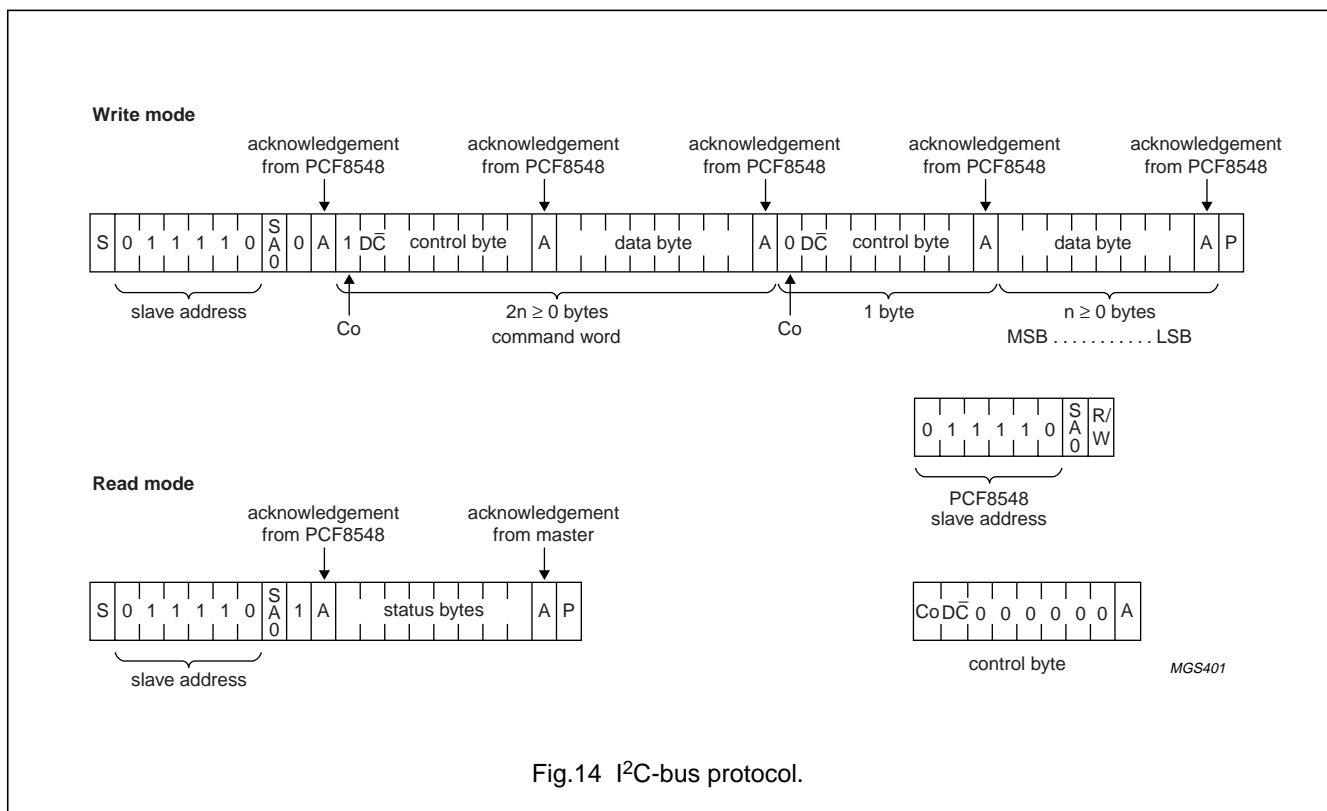

Fig.14 I²C-bus protocol.
The I²C-bus protocol is illustrated in Fig.14.
The sequence is initiated with a START condition (S) from the I²C-bus master which is followed by the slave address. All slaves with the corresponding address acknowledge in parallel, all the others will ignore the I²C-bus transfer. After acknowledgement, one or more command words follow which define the status of the addressed slaves. A command word consists of a control byte, which defines Co and D/C, plus a data byte (see Fig.14 and Table 1).